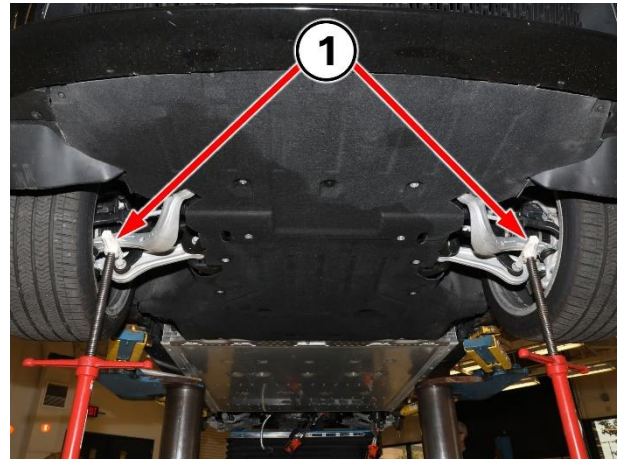

Figure 22 – Support Vehicle Front
52. Position support jack stands under the front of the vehicle (Figure 22).